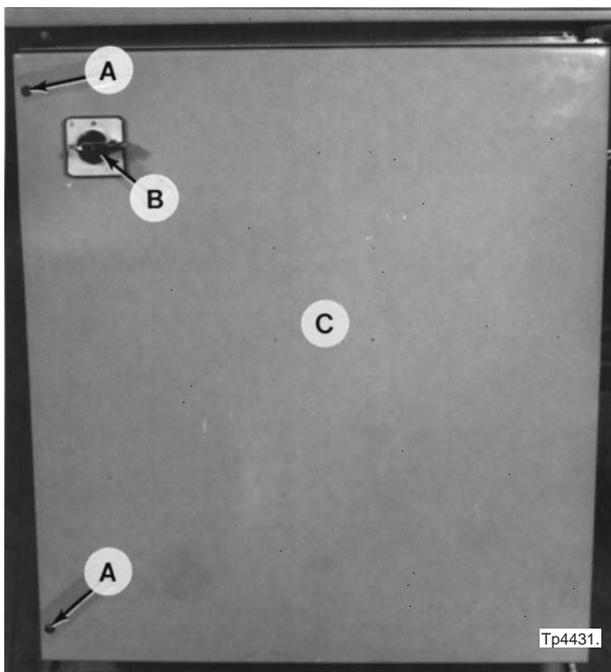

Figure 3.25 - Power Case (External View)
8. Turn main disconnect switch “B”, Figure 3.25, OFF
8. Close power case door “C”, Figure 3.25, and secure two screws “A”.